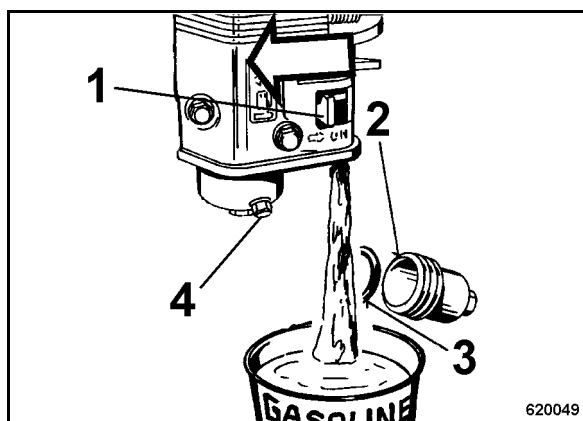

Fig. 69
- Open the fuel tap (1) (Fig. 69) in direction of arrow.
- Unscrew the fuel sludge filter (2), empty it and reassemble it leak tight with a new seal ring (3).
- Unscrew the carburettor drain screw (4), let all fuel run out of the carburettor and turn the screw tightly back in again.